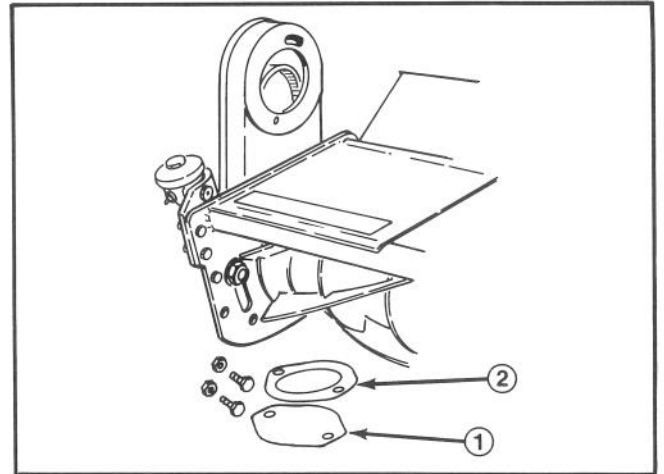

Figure 11
- A. Remove locknuts, bolts, shipping cover and drive plate shield (Fig. 11) from the cutting unit.